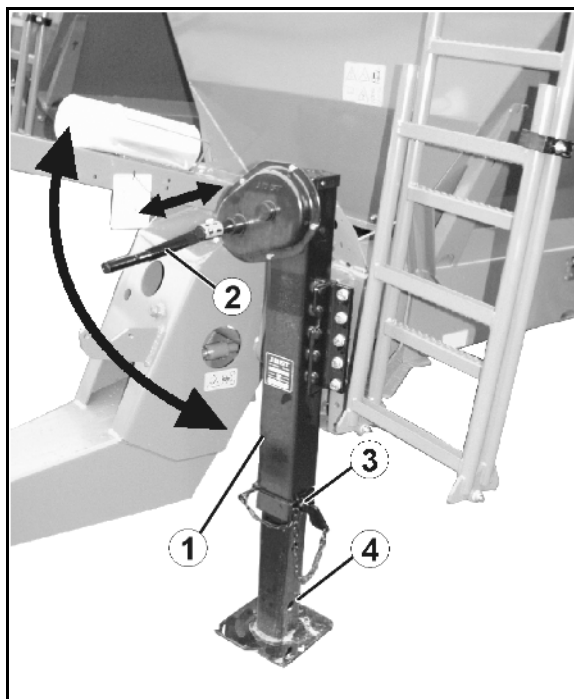

Fig. 54
1. Wind up the stand (Fig. 54/1) to the limit stop using the hand crank (Fig. 54/2).
2. Pull the pins (Fig. 54/3) out of the stand.
4. Insert the pins in the lower hole (Fig. 54/4) and secure them.
1. Hold the inside of the stand steady and pull the pins (Fig. 54/3) out of the stand.
4. Wind down the stand (Fig. 54/1) to the limit stop using the hand crank (Fig. 54/2) until the load is relieved from the yoke bar.